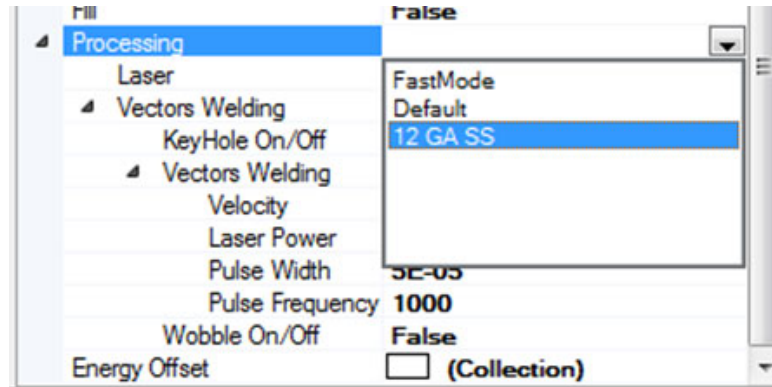

Figure 126: Processing Dropdown Menu
6. In the Data/Parameter Window, after selecting an object, under Processing, select the profile from the drop-down menu as shown in Figure 126 on page 139.